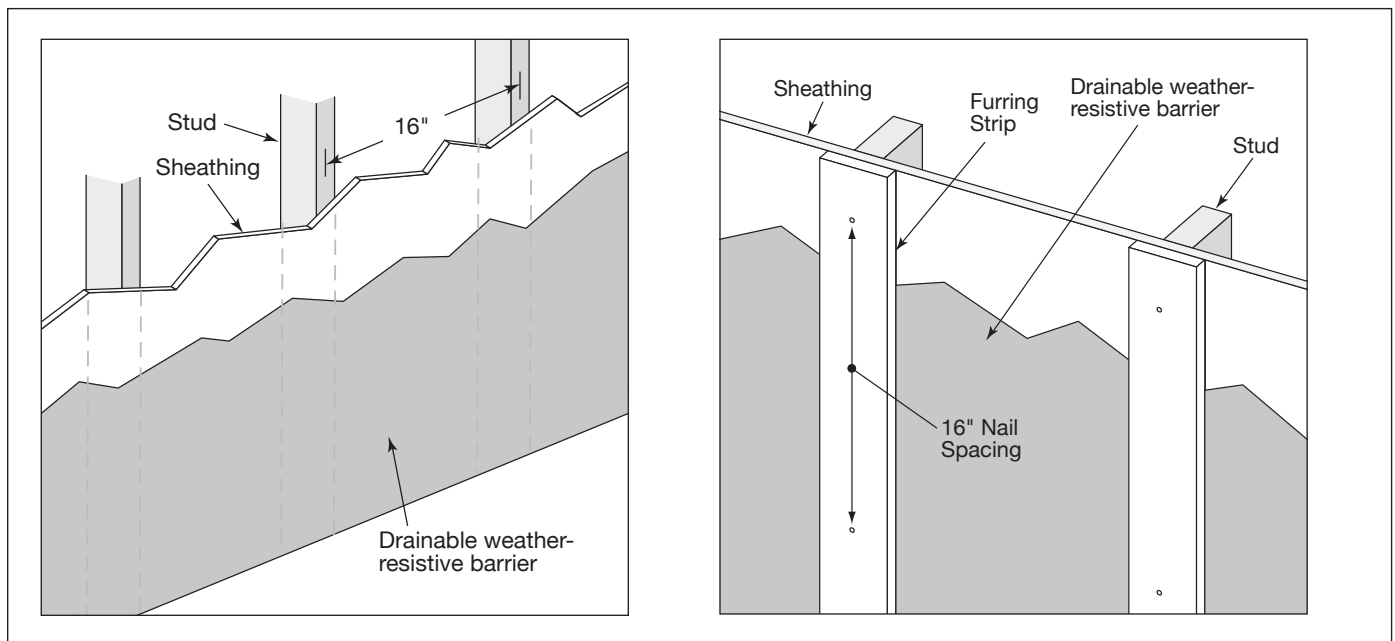

Fig. 50
- Install vertical 1x4 wood furring strips every 16 inches on center directly to each wall stud (**Fig. 50**)
- Secure the furring strips with nails placed every 16 inches from the top to the bottom of the strip (**Fig. 50**)